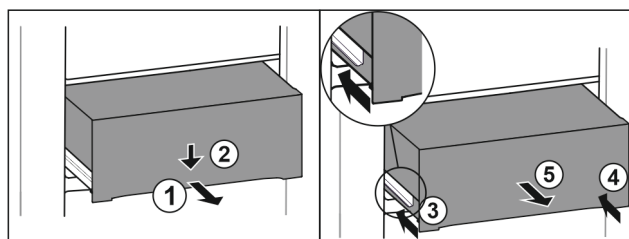

Fig. 91
- ▶ Pull out the drawer halfway. *Fig. 91 (1)*
- ▶ Press down the drawer on the front. *Fig. 91 (2)*
- ▶ Push in the left rail approximately 2 cm. *Fig. 91 (3)*
- ▶ Push in the right rail approximately 2 cm. *Fig. 91 (4)*
- ▶ Remove drawer to the front. *Fig. 91 (5)*